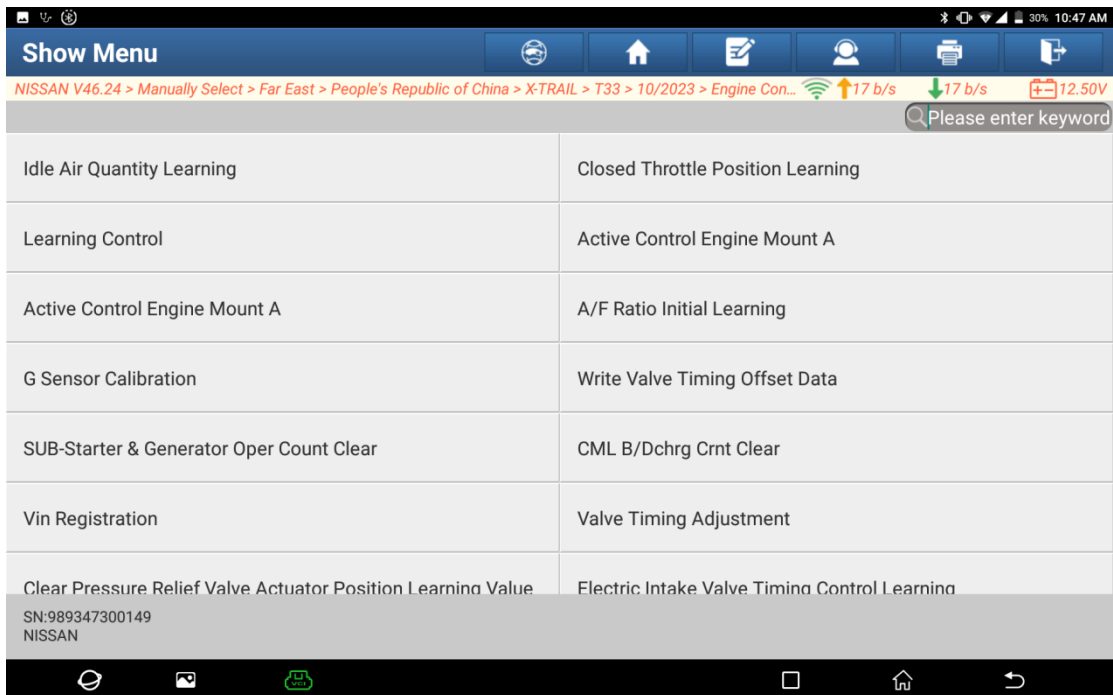

Figure 10
5. Click [WORK SUPPORT] to enter the [WORK SUPPORT] menu interface (Figure 10).